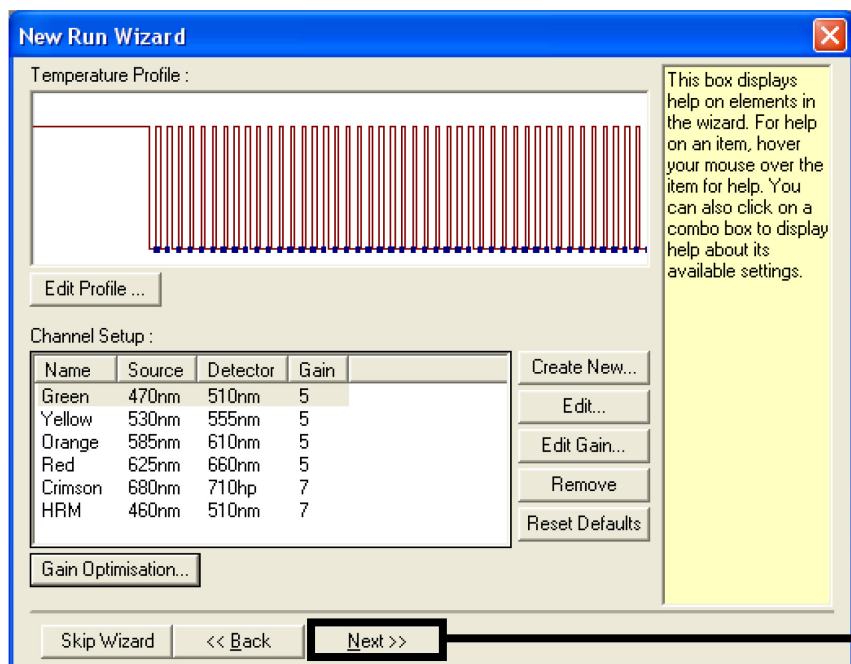

Figure 35. The “New Run Wizard” dialog box and temperature editing screen (1 = “Next” button).
4. The next window allows editing of the temperature profile. (No editing is required as the temperature profile was created according to the instructions in "Protocol: Creating a temperature profile," page 71.) Click "Next" (Figure 35).